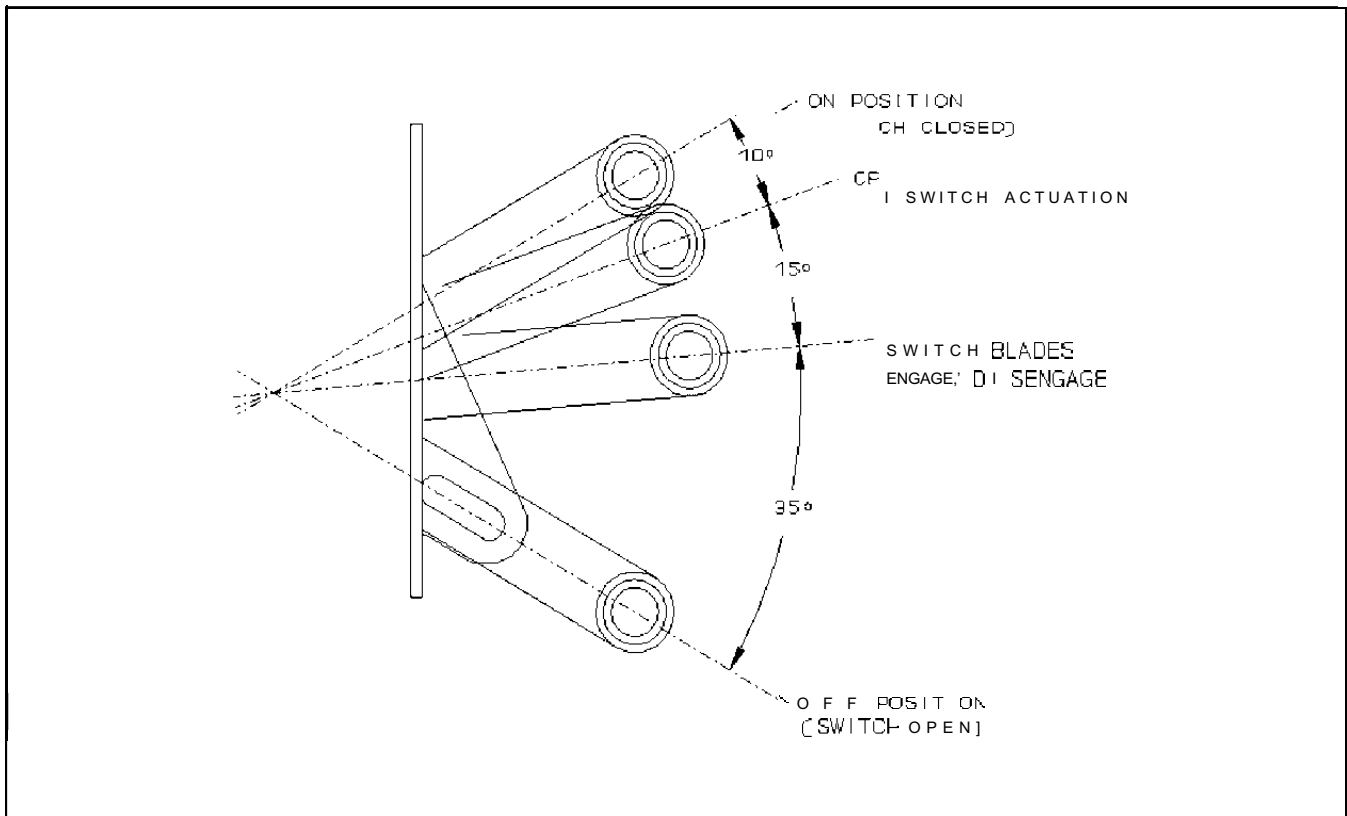

Fig. 59 Interlock Sequence Check
- Check that the CPI electrical interlock (microswitch) operates each time the handle is moved. The CPI (control power interlock) should close approximately 10° before the handle reaches the full ON position. As the handle is moved from ON to OFF, the CPI switch should open by the time the handle has moved approximately 10° or one inch (Fig. 59).